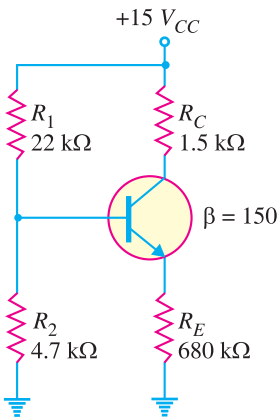

Fig.9.56
15. What is the minimum value of β in Fig. 9.56 that makes $R_{in(base)} \geq 10 R_2$? [69.1]